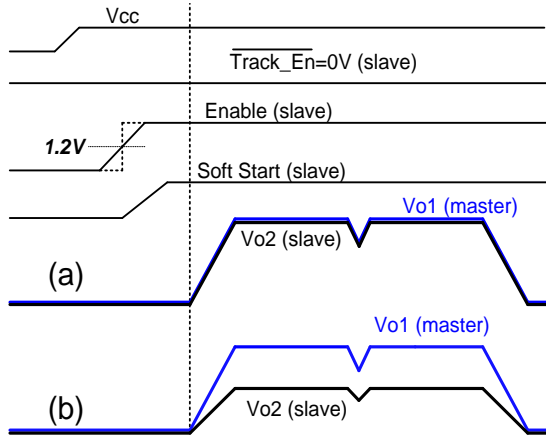

**Figure 26: Application Circuit for Simultaneous and Ratiometric Sequencing of two Manhattan devices**
Tracking and sequencing operations can be implemented to be simultaneous or ratiometric (refer to Figure 27 and Figure 28). Figure 26 shows typical circuit configuration for sequencing operation. With this power-up configuration, the voltage at the  $V_p$  pin of the slave reaches 0.5V before the Fb pin of the master. If  $R_E/R_F = R_C/R_D$ , simultaneous startup is achieved. That is, the output voltage of the slave follows that of the master until the voltage at the  $V_p$  pin of the slave reaches 0.5 V. After the voltage at the  $V_p$  pin of the slave exceeds 0.5V, the internal 0.5V reference of the slave dictates its output voltage. In reality the regulation gradually shifts from  $V_p$  to internal DAC2. The circuit shown in Figure 26 can also be used for simultaneous or ratiometric tracking operation if the  $\overline{\text{Track\_En}}$  pin of the slave is connected to LGND. Table 4 summarizes the required conditions to achieve simultaneous / ratiometric tracking or sequencing operations.
**Table 4: Required Conditions for Simultaneous / Ratiometric Tracking and Sequencing (Figure 26)**